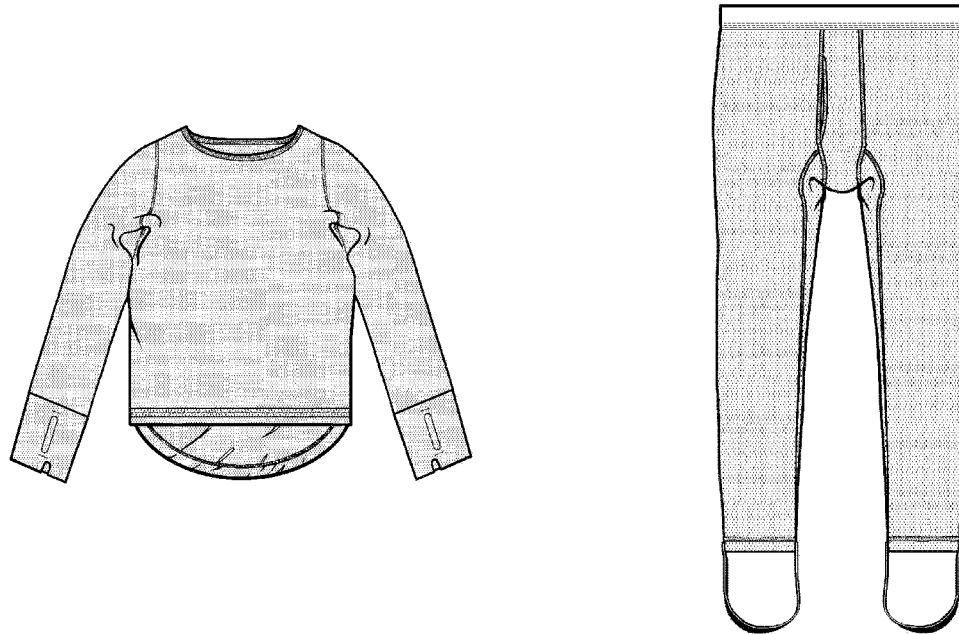

Figure 3-42. Silkweight Shirt and Trouser
1. The **Silkweight** garment set (figure 3-42) is a lightweight layer for times when a warmer layer is not needed or for layering under a thicker layer. The fabric is an aramid rasher knit that provides breathability, insulation and flame resistance. The shirt has a thumbhole in the cuff to allow the sleeve to be held in place when donning other layers overtop. It can also be used to keep the hand partially covered with the cuff for warmth. The shirt has an aramid mesh fabric on the bottom to reduce bulk when tucking it in. The drawer has a front fly and elastic waist. The elastic stirrup on the bottom of the leg is to aid in donning layers overtop and can be cut off by aircrew who do not like this feature.